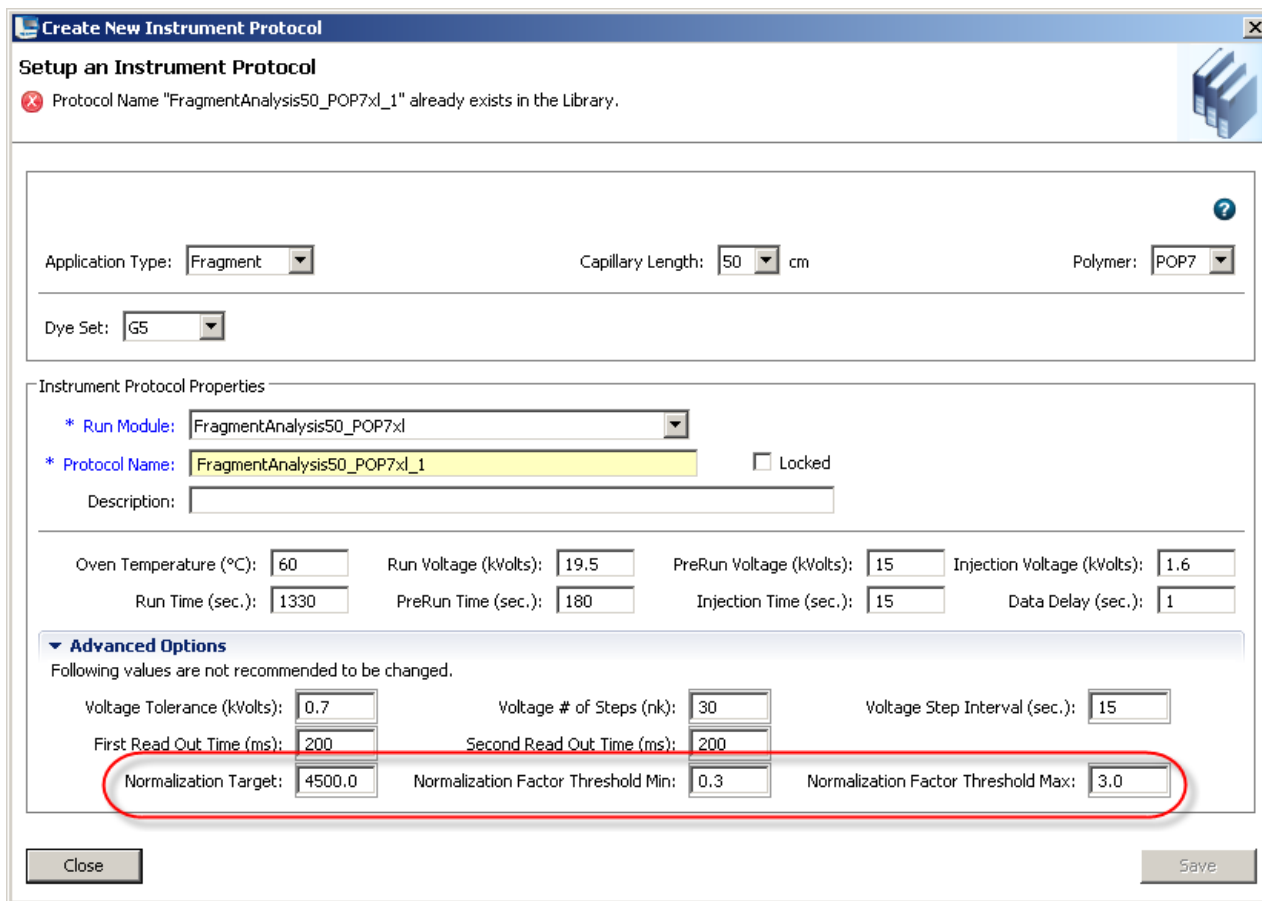

Figure 21 Create New Instrument Protocol – normalization parameters circled in red are displayed for fragment analysis and HID applications only
3. In the Create New Instrument Protocol dialog box (Figure 21 on page 166), select an application type: Sequencing, Fragment, or HID. The run module selection list is filtered based on the application you select.